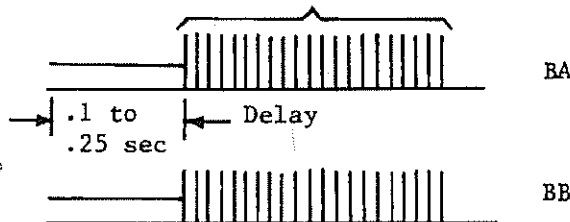

Figure 4
- E. Check power applied reset per Figure 4 as 1SW is closed.